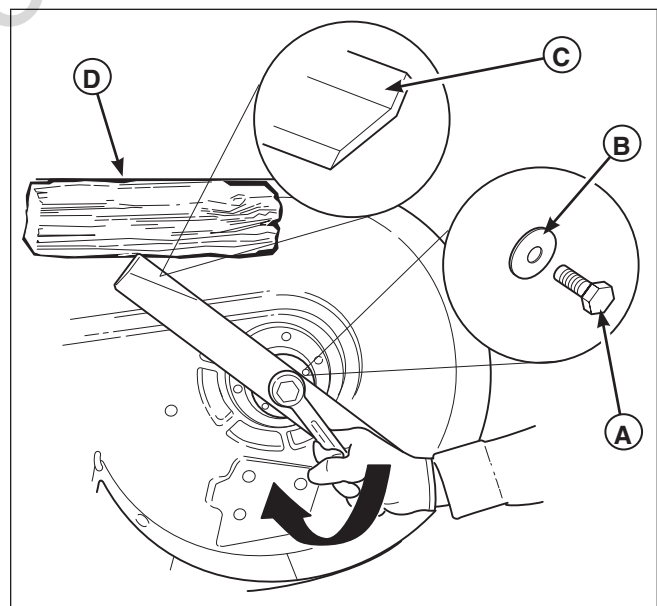

Figure 13 Tightening the Mower Blade for Installation
2. Reinstall each mower blade with the air lifts pointing up towards the mower deck as shown in Figure 13. Secure with the mower blade mounting bolt and flat washer (**A & B, Figure 13**) and torque to 70 ft. lbs (94 Nm).